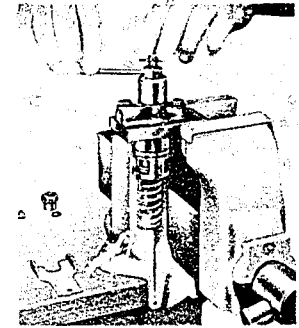

Figure 3
4. Use Service Tool TSE 7682 to extract delivery valve assembly (15) and gasket (16) (See Figure 3). When using the delivery valve extractor, screw the extractor stem until it bottoms on the delivery valve body and then turn the stem back at least half a turn. This will prevent the delivery valve body from locking to the stem after extraction.